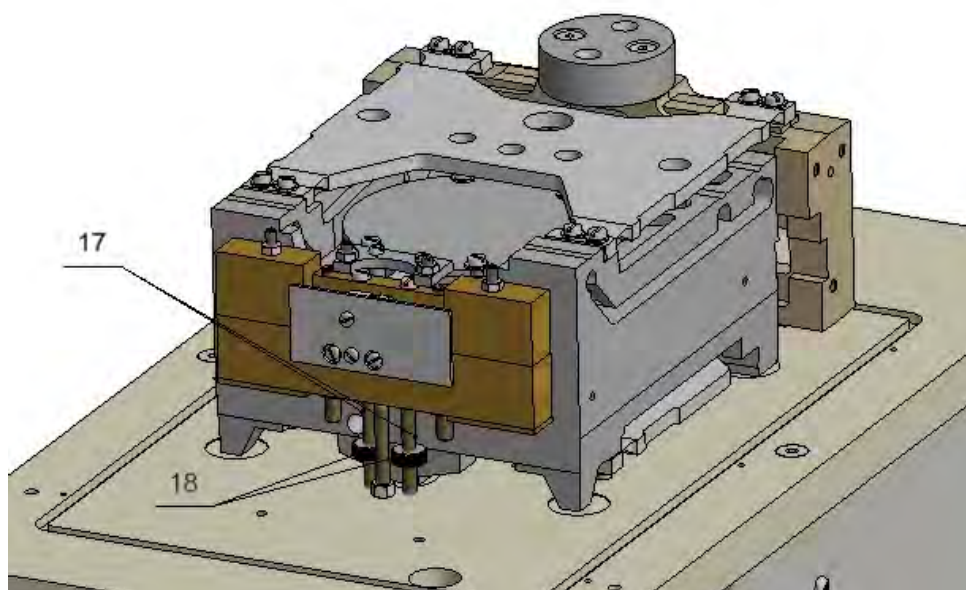

Fig.8
13. Unlock comparator mechanism (16): undo two handwheels (17) and transport interlocking devices (18). (Fig. 8)